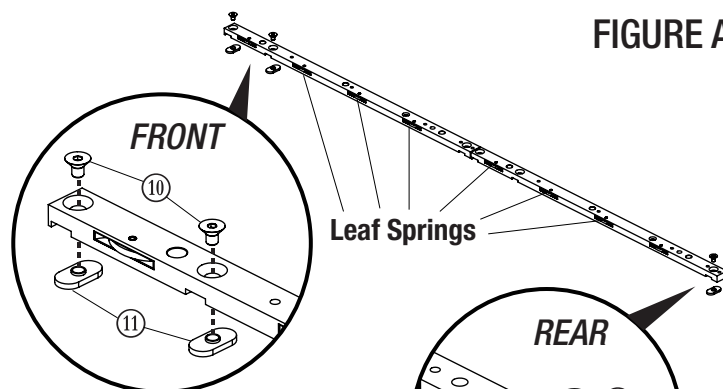

FIGURE A-1
- ③ (2) Miter Bar
- ④ (2) Adhesive-Backed Rule Tape
- ⑧ (6) Square Washer
- ⑨ (6) 10-32 x 7/8" Button Head Socket Cap Screws
- ⑩ (3) 10-32 x 5/16" Flat Head Cap Screws
- ⑪ (3) Oval Weld Nut
- ⑮ (1) Handle
- ⑯ (1) 1/4-20 x 1 Flat Head Phillips Screw
1. Arrange the two ③ Miter Bars in the same direction so that the ⑧ leaf springs are facing the same direction. **FIGURE A.**
2. At the *front* of one bar, install two ⑩ Flat Head Cap Screws through the counter-sunk holes and into the two ⑪ Oval Weld Nut. **FIGURE A-1.**